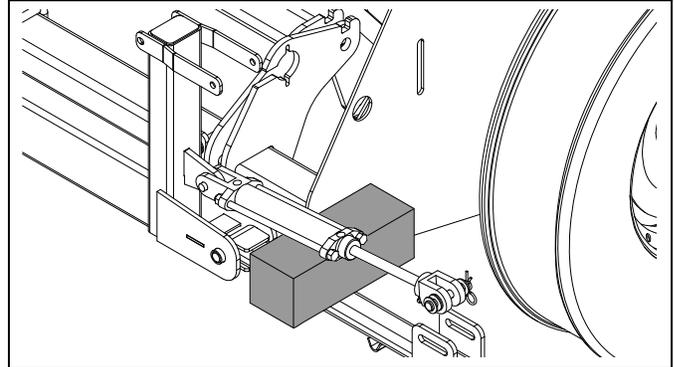

Figure 39
**Refer to Figure 39 (depicting a cylinder support block - you can also set the cylinder vertically, pinned in the mount)**